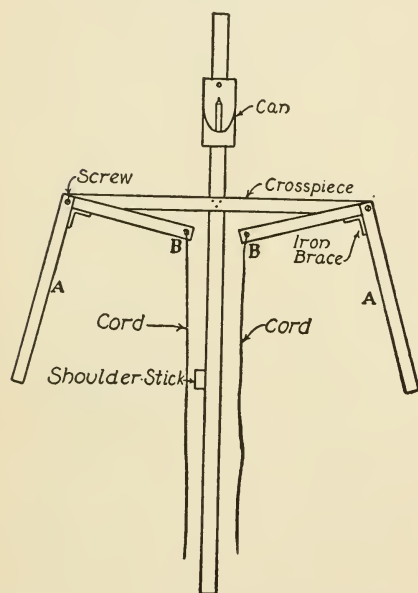

FIG. 307. — Framework of the Goblin-man.
**The Goblin-man** (Fig. 306) is easily made out of such material as you can most generally find about the house. The framework for the body of this ghostly creature is shown in Fig. 307, and consists of a pole about four feet
long with the centre of an eighteen-inch crosspiece nailed across it. In order to fasten these pieces firmly together, they should be halved as shown in Fig. 267, Chapter XIX. The arms consist of two sticks (*A* and *B* in Fig. 307) fastened together at right angles with small iron braces, and screwed in place near the ends of the crosspiece, as shown in the illustration. Holes should be bored through the arm pieces in order that they may work freely on the screws. Place a small screw-eye in each arm at *B*, and attach a short string to it. A short stick should be nailed to the four-foot pole about eighteen inches from the lower end, so that the boy who carries the framework can rest it upon his shoulder.
by means of a candle fastened in a baking-powder can. Cut down one side of the can with a pair of tin-shears or a can-opener, and tack it to the framework about six inches above the crosspiece, as shown in Fig. 307. This can must not be put in place, however, until the head is fastened to the framework, which is done by punching